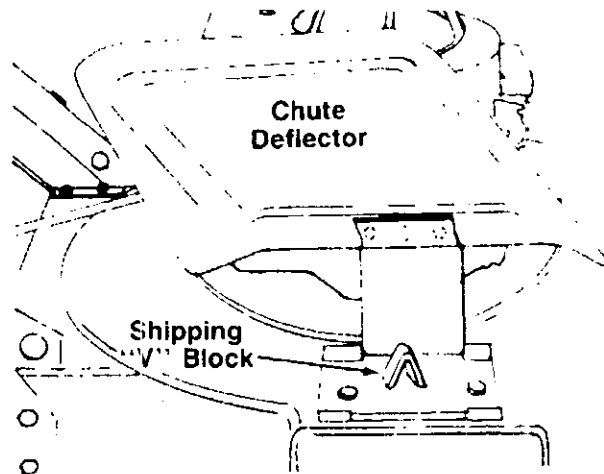

FIGURE 9.
- The chute deflector on your mower is held in an upright position by a "V" block for shipping purposes only. This "V" block must be removed and discarded before the mower is put into operation. See figure 9.